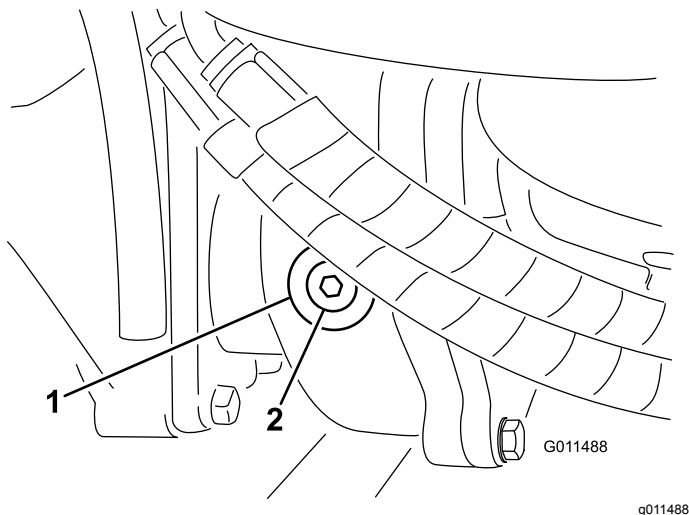

Figure 98
2. Remove the check/fill plug from the left side of the gear box (Figure 98) and make sure that lubricant is up to the bottom of the hole. If the